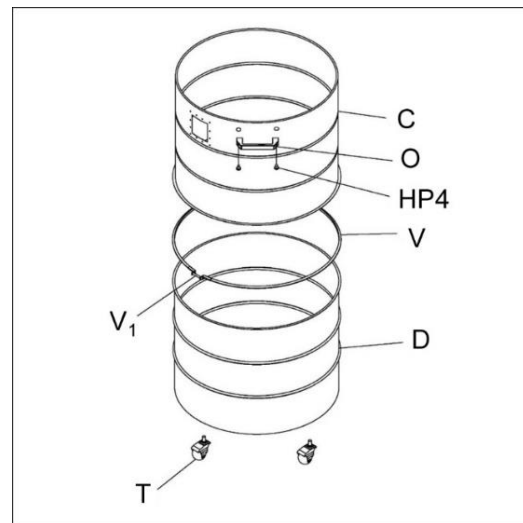

Figure 5-9
17. Assemble upper drum (C, Figure 5-9) to lower drum (D) and secure with drum clamp (V) by tightening screw (V₁).
18. Install handle (O) with screws (HP4). Handle should be opposite side from lower ports.
19. Turn drum over and install casters (T) into threaded holes beneath drum. Use the provided wrench to tighten.